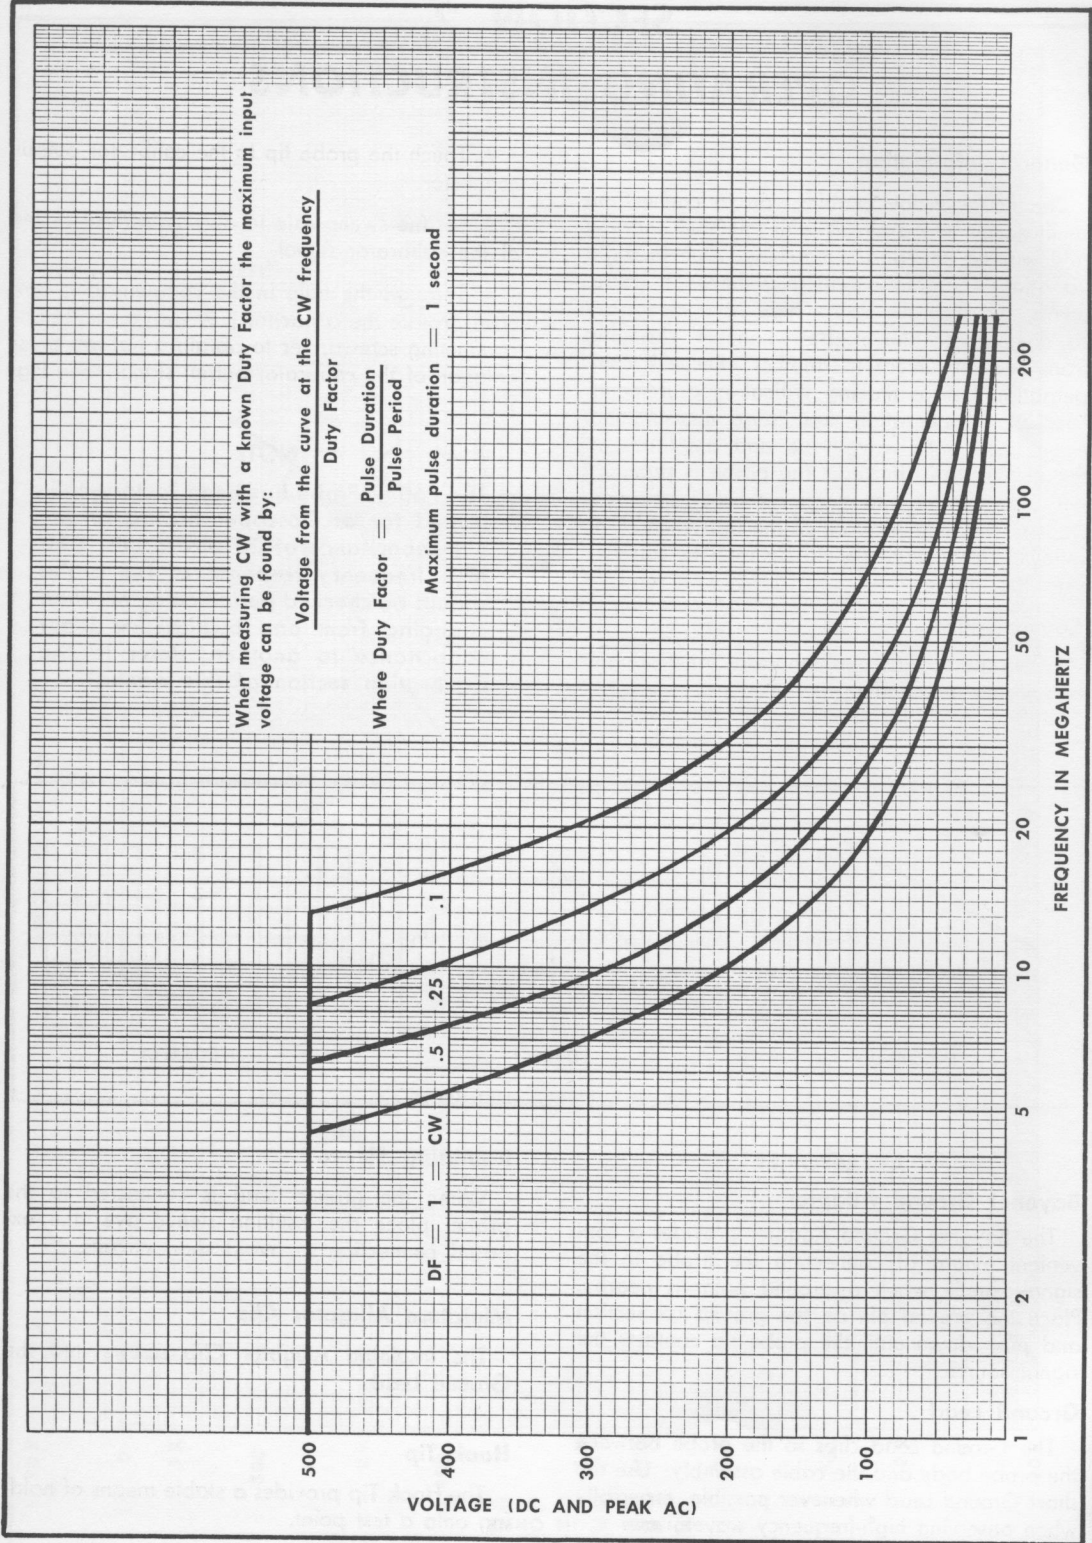

Fig. 1-4. P6047 Maximum Applied Voltage at Specific Duty Factors.
The maximum DC + AC peak input voltage is 500 volts, continuous wave (CW). See Fig. 1-4 for derating curves.